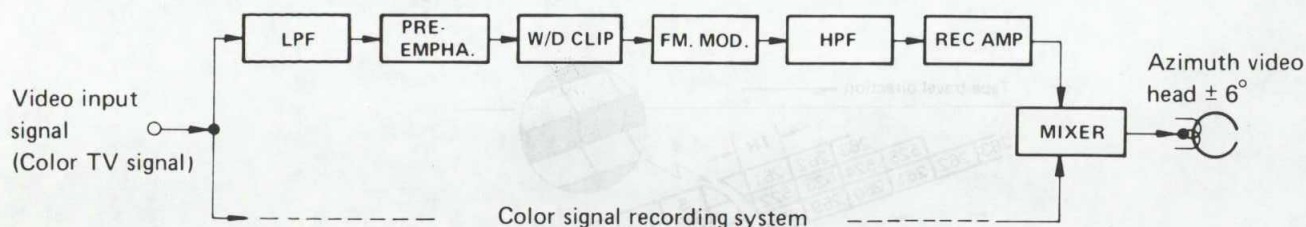

Fig. 1-1-6 Luminance signal recording system
Frequency modulation (FM) is used for the luminance signal recording system. A simplified block diagram of the system is shown in Fig. 1-1-6.